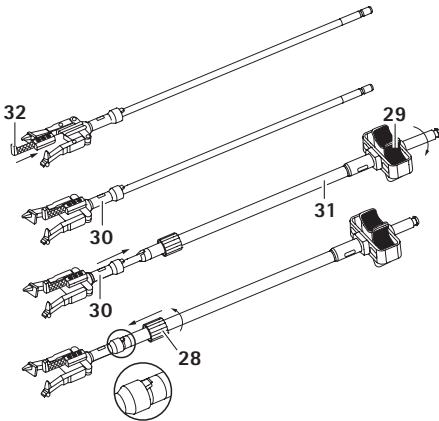
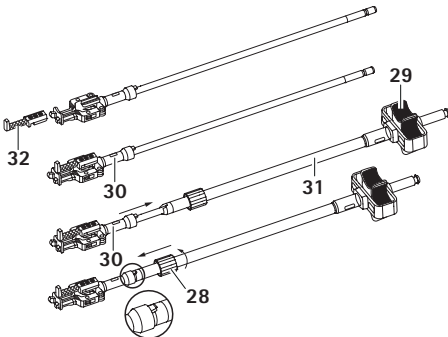

Fig. 13 Assembling ME015R
Fig. 14 Assembling SJ605R
- ▶ Firmly thread the nut **28** towards the distal end until it is fully threaded, see Fig. 13 and see Fig. 14.